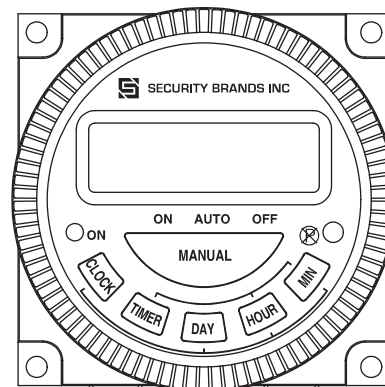

Figure 1: Front Panel
2. Press **DAY** until desired daily program schedule is indicated on display (See **Figure 1**).